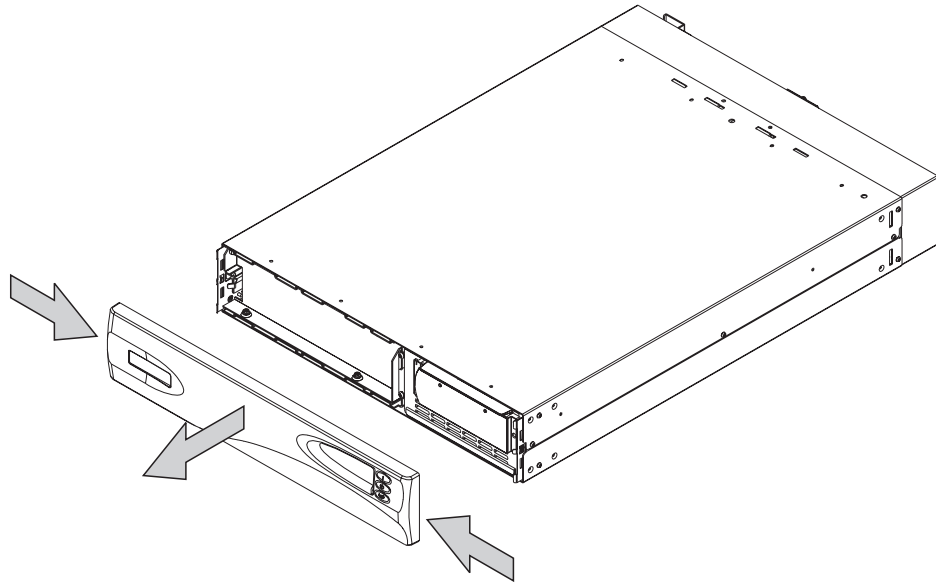

Figure 239. Removing the front panel of the 2145 UPS
3. Remove the front panel by pressing the sides inward and pulling both ends towards you, as shown in Figure 239 on page 511.